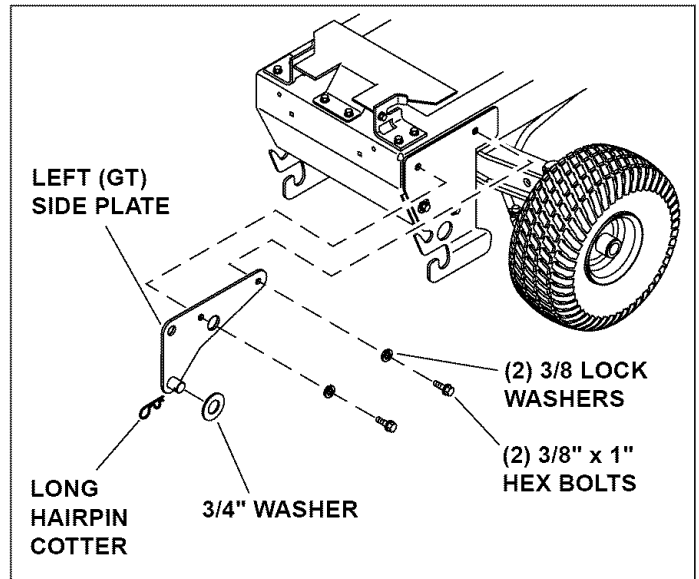

FIGURE 20
STEP 21 - INSTALL (GT) SIDE PLATES
- Remove any bolts present in the mounting holes on the left side of the tractor frame. **Do not remove** bolts from right side of frame until left side plate has been installed. See figure 20.
- Install the left (GT) side plate with the pin to the outside using two 3/8" x 1" hex bolts and lock washers. Tighten only until bolts are snug and lock washers are flattened. Repeat for the right side plate. See figure 20.
- Install a 3/4" washer and a long hairpin cotter to the pin in each side plate. Remove them while mounting the scoop. See figure 20.